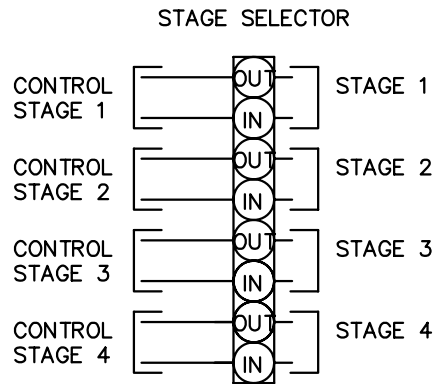

Fig. 22: 4-Stage Wiring Connection
2. For 2-stage controller connections, connect each stage of the control to the corresponding stage of the CPW board in the heater, i.e., stage 1 of the heater to stage 1 of the control; stage 2 of the heater to stage 2 of the control, as shown in Fig. 22 and Fig. 25. Set the operating control to the set-point at which you want the heater to maintain. Ensure that the sensing bulb of the control is at the point in the system that will best maintain the temperature you want. For example, when you are heating a tank of water, you want the operating control sensor bulb in the tank.